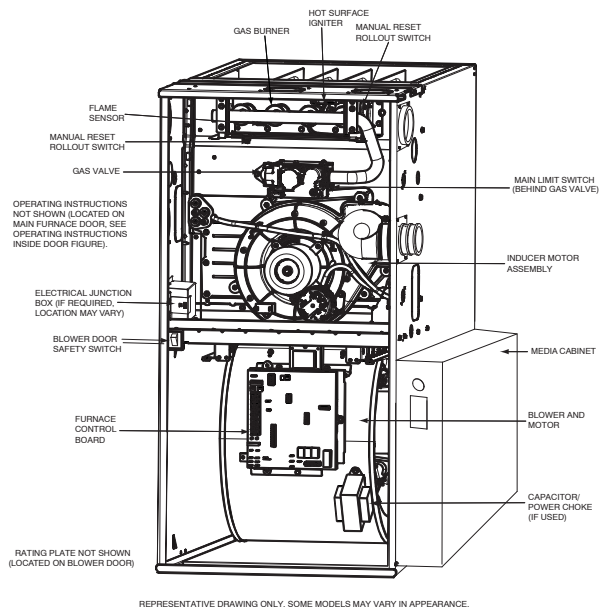

Figure 1 – Representative Furnace Drawing
1. Disconnect the gas pipe from gas valve and remove pipe from the furnace casing. See **Figure 1**.